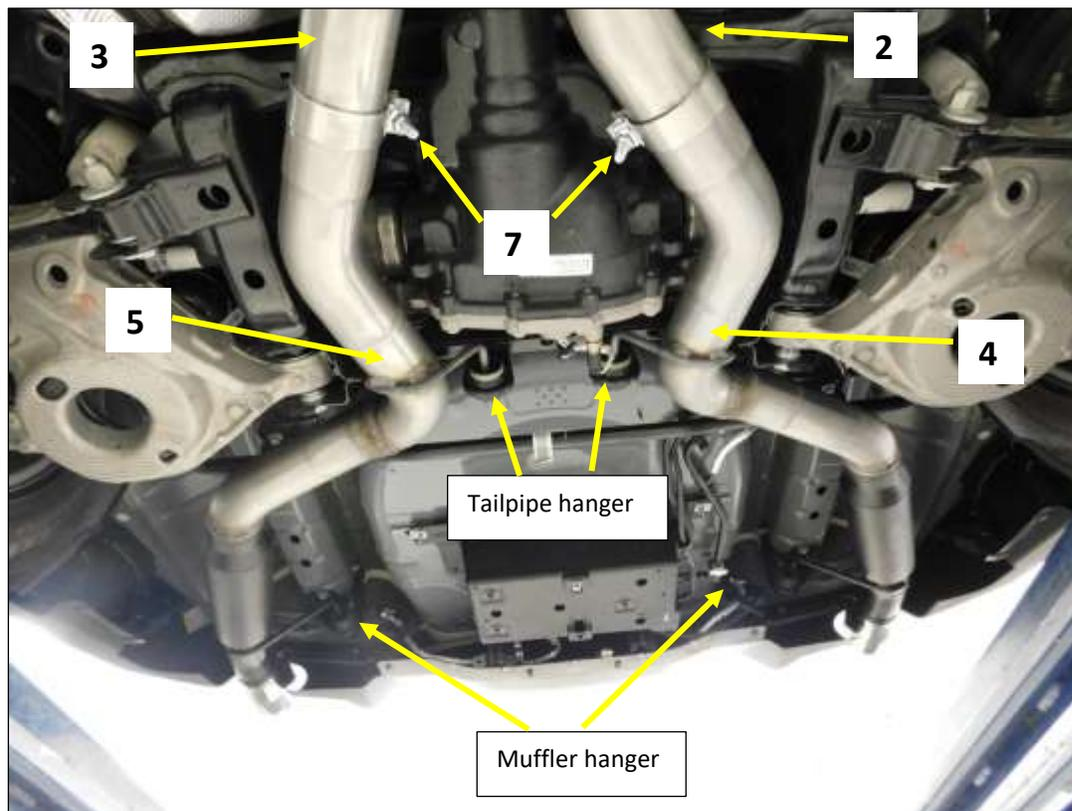

Figure 11
11. Install a 3" band clamp (7) onto the expanded end of the left and right muffler assembly with the bolt to the inside and the nut facing down (Fig. 11).
12. Install the right muffler assembly (5) on to the outlet of the Right Mid pipe (3).
13. Install the OEM muffler hanger on to the Flowmaster muffler hanger rod. Rotate the hanger assembly up and clip the catch into the frame. Install the (x2) bolts (Fig. 11).
14. Install the tailpipe hangers on to the Flowmaster tailpipe hanger rod. Hook the catch into the subframe. Install the bolt (Fig. 11).
15. Tighten the 3" band clamp (7) to allow for adjustment.
18. Make the necessary adjustments to the system for best clearance and tip alignment. Tip alignment adjustments side to side and up and down in the cut out, are best made at the slip joint between the muffler assemblies and the Mid pipes - (3/5 and 2/4) (Fig. 11).